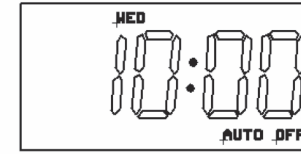

Figure B-18: AUTO OFF
- OFF AUTO** - Output to OFF until next program ON period. Refer to Figure B-18.